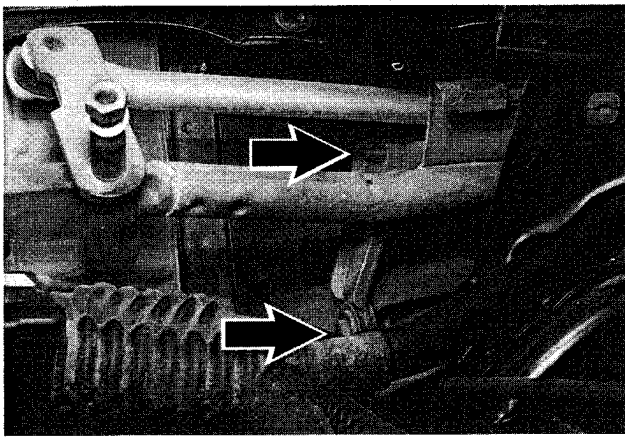

Fig. 10. Wiper assembly support bolts (arrows).
11. Remove wiper assembly support. Refer to Fig. 10.
10. Remove wiper assembly support. See Fig. 10.